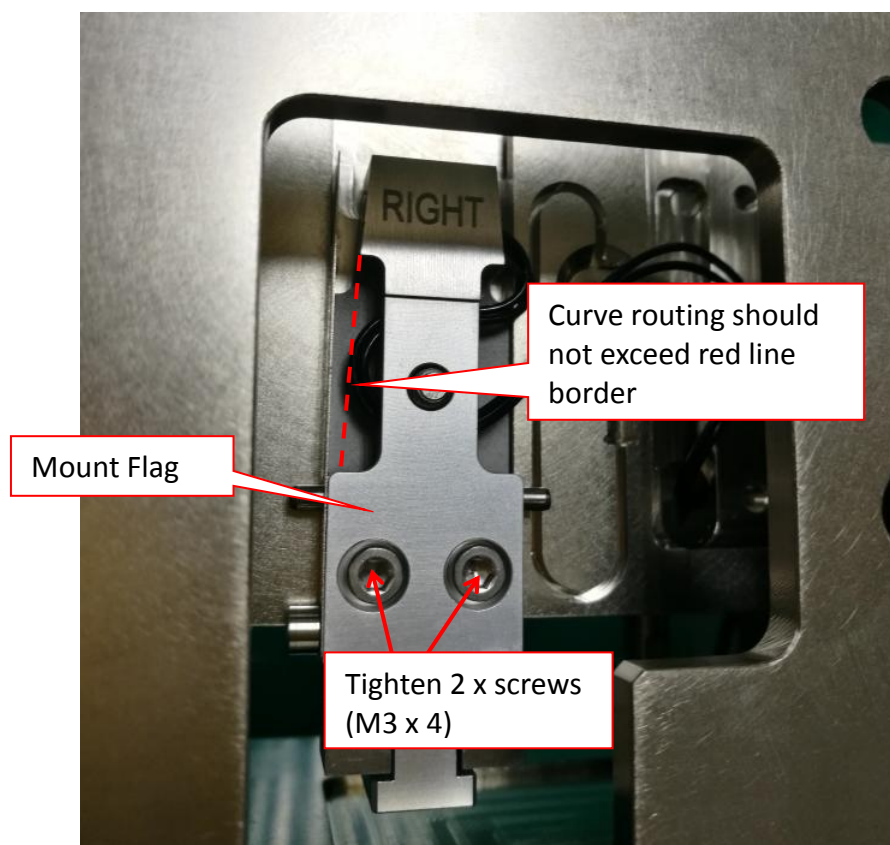

Figure 33 Mount Flag Assembly
4. Assemble Mount Flag & tighten 2 x screws (M3 x 4) as shown in Figure 33.